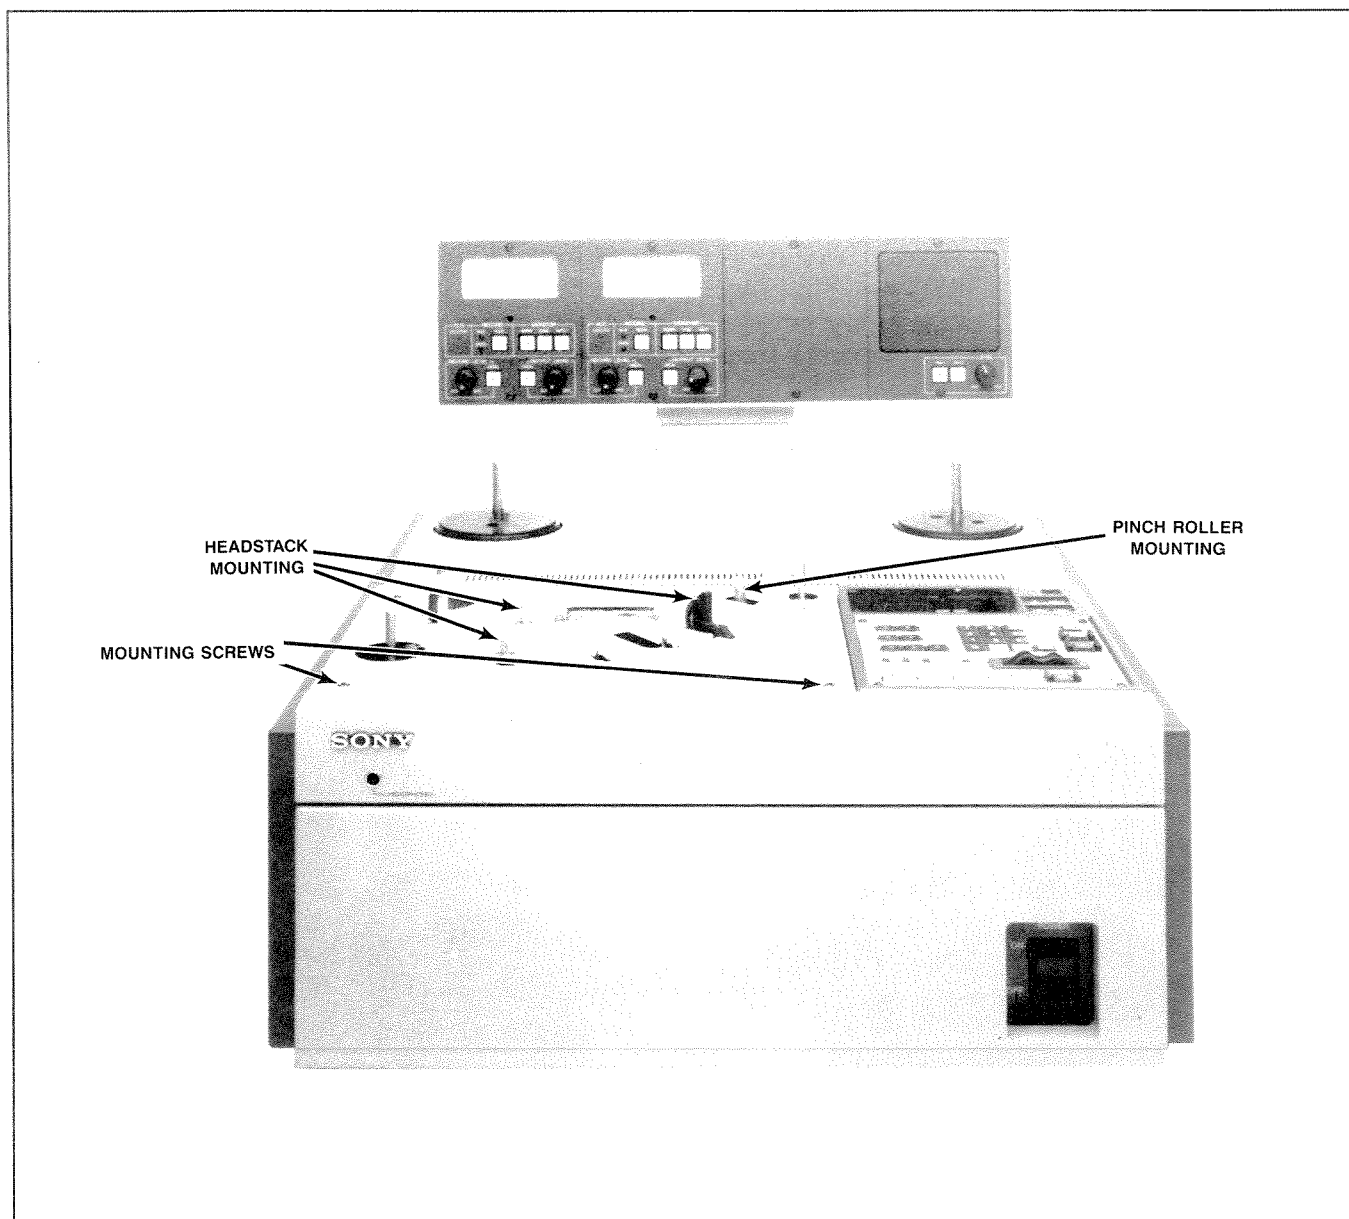

Figure 6-1. Removal of Top Front Cosmetic Cover
- STEP 4** To re-install, gently place the headstack to be installed on the connector and studs. (See Figure 6-1.)
Some of the adjustment and alignment procedures in this section requires removal of the top front cosmetic cover. When it is necessary refer to this procedure. (See Figure 6-1.)